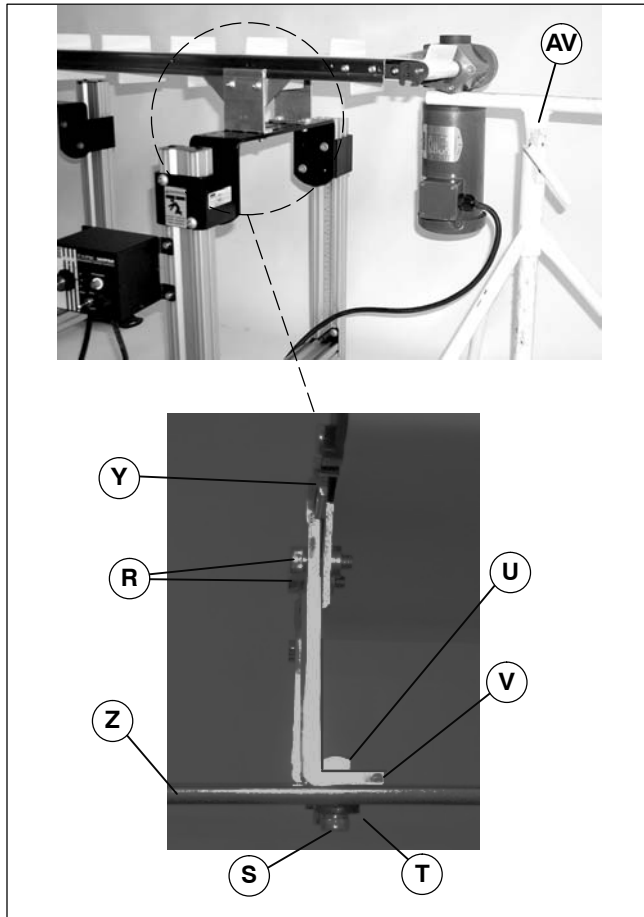

Figure 25
<p>The weight of the gearmotor is all on one end of the conveyor which could cause it to tip off the stands when the mounting clamp plates are loosened. Be sure to provide support (AV of Figure 25) underneath the gearmotor while changing the belt.</p>
5. Place a temporary support (AV of Figure 25) under gearmotor mounting package.
6. Loosen two mounting plate screws (R of Figure 25). Remove two screws (S), hard washers (T) and square nuts (U). Slide stand mounting bracket (V) off stand (Z) and remove from conveyor (Y).
9. If a new belt will not be installed immediately, secure conveyor with mounting plate(s) and stand mounting bracket(s) (V of Figure 25).
3. Install stand mounting bracket (V of Figure 25) onto stand (Z) and conveyor (Y). Refer to “Mounting Brackets” on page 5.